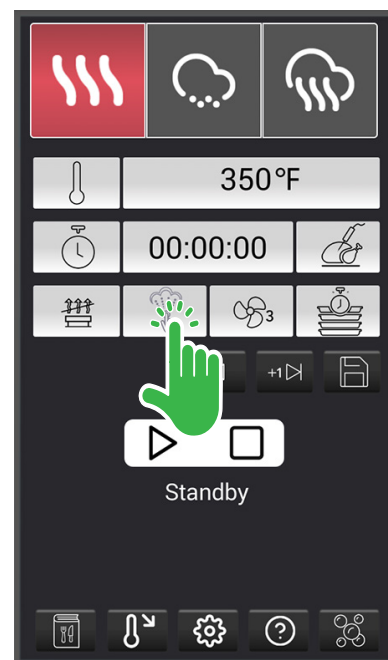

Fig. 31
- Humidity bursts can be added by creating a cooking mode stage for the spritzer burst. Touch the Spritzer Burst button (Fig. 31) to add a short blast of steam to the cavity.